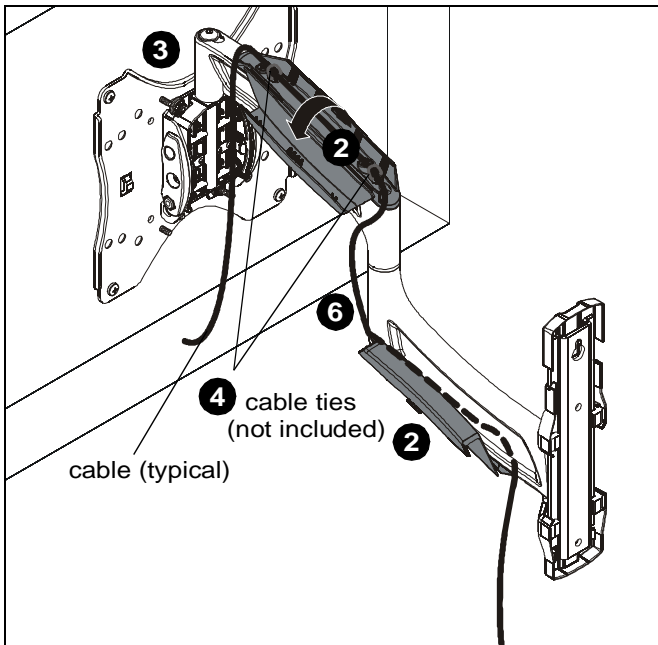

Figure 15
3. Route cables on top of upper arm. (See Figure 15)
4. (Optional) Use cable ties (not included) to secure cables to upper arms by threading ties around cable and through cable tie holes on arms. (See Figure 15)
5. Close upper cable management cover. (See Figure 15)
6. Route cables under lower portion of swing arm. (See Figure 15)
7. (Optional) Use cable ties (not included) to secure cables to lower arms by threading ties around cable and through cable tie holes on arms. (See Figure 15)
8. Close lower cable management cover. (See Figure 15)